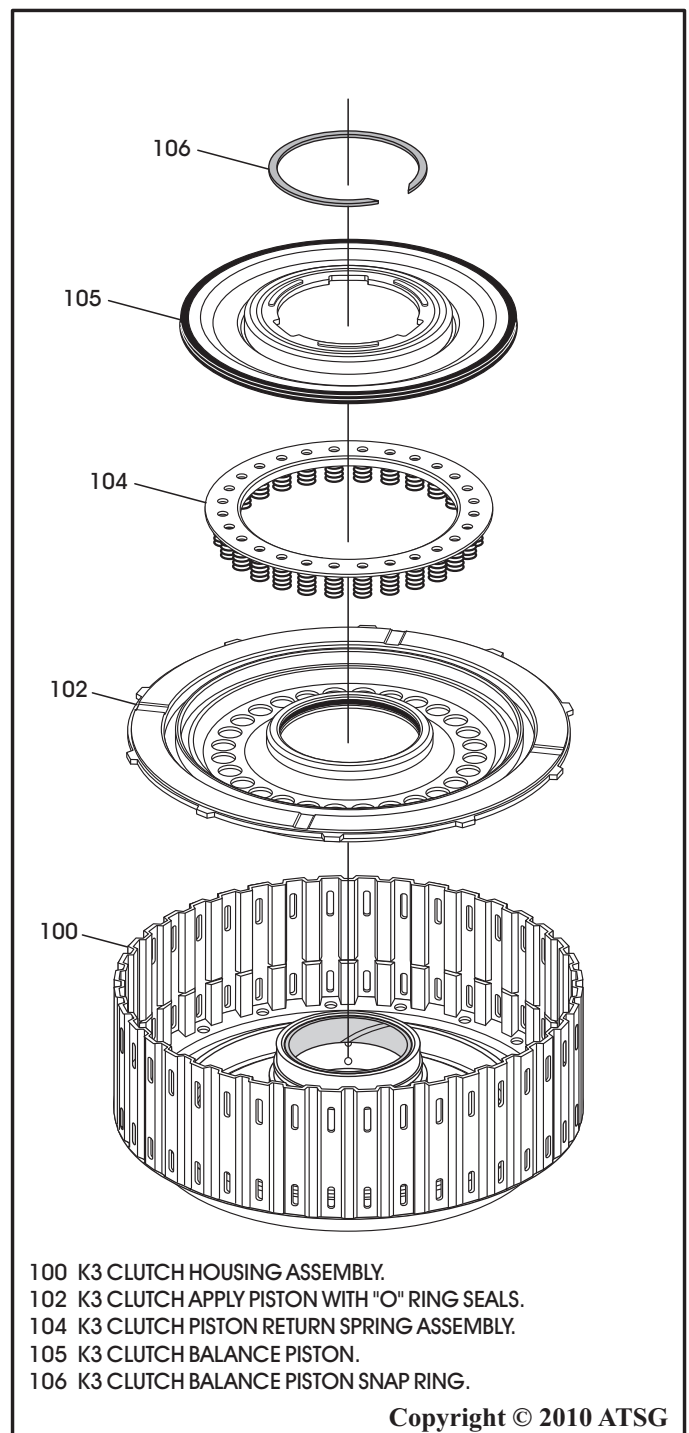

Figure 108
5. Lubricate both seals with a small amount of Trans-Jel® and install K3 clutch apply piston into K3 housing, as shown in Figure 108.
6. Install the return spring assembly into the K3 clutch housing, as shown in Figure 108.
- Note: Ensure springs are seated in cavities of the piston (See Figure 108).**
7. Lube the balance piston seal with small amount of Trans-Jel® and install the balance piston, as shown in Figure 108.
8. Compress the balance piston and install the snap ring, as shown in Figure 108.